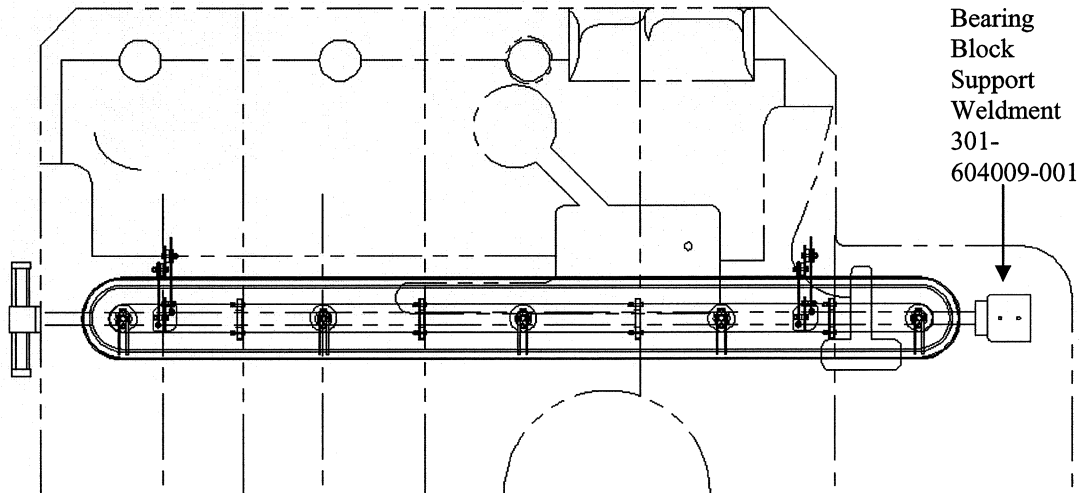

Figure 2
6. Place bearing block support weldment 301-604009-001 on actuator shaft per Figure 2.